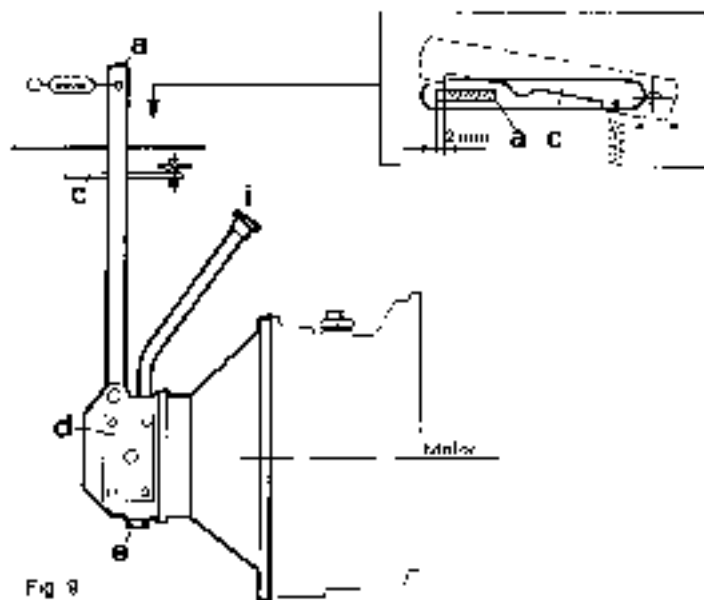

Fig 9
Clutch engagement: The P.T.O. clutch lever 30 should be engaged like the foot operated clutch pedal, i.e. pull at low engine speed slowly towards the rear. If the pressure required to engage the P.T.O. clutch lever falls below 4.5 kg, the P.T.O. clutch must be adjusted (see page 60, fig. 9).
P.T.O. clutch (Fig 9)